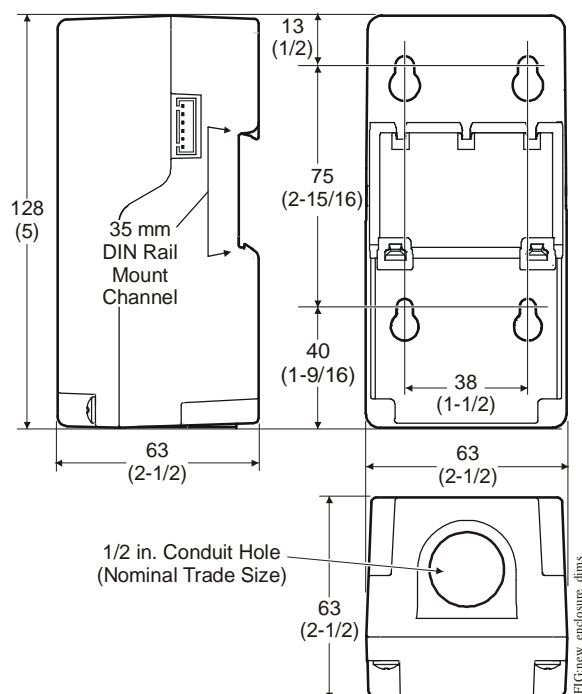

Figure 1: System 450 Module Dimensions, mm (in.)
1. Plug the modules together, remove the module covers, place the assembly against wall surface horizontally in a suitable location, and mark the mount hole locations on the surface (Figure 1).